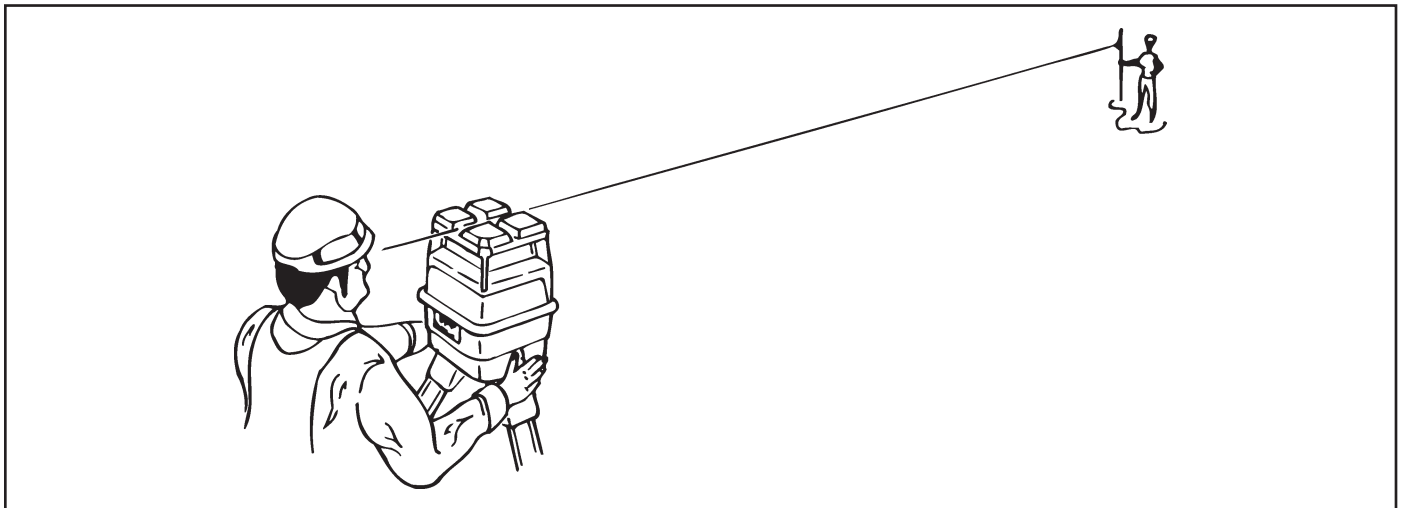

Figure 20. Sight over Rotating Laser
6. Insert the Mast Pole into the holder until it rests on the bottom of tube and tighten the tee handle to secure. Clamp the Laser Sensor near the top of the Mast so it is higher than any local obstructions including the tractor cab or fall protection devices. (Refer to Figure 20).
5. Roughly align one of the axis to the grade stakes by sighting over the top of the Rotating Laser (Refer to Figure 20).
4. Roughly align one of the axis to the grade stakes by sighting over the top of the Rotating Laser (Refer to Figure 20).